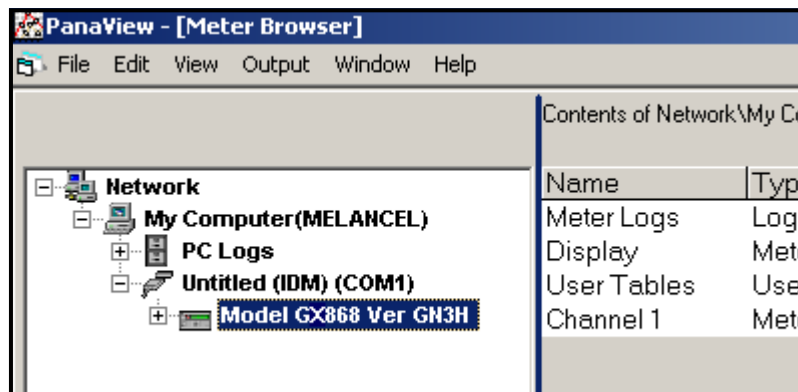

Figure 22: The Updated Network Tree
If the initialization is successful, the Meter Browser shows a listing similar to *Figure 22* below.
1. Highlight the meter (as shown in *Figure 22 on page 93*).